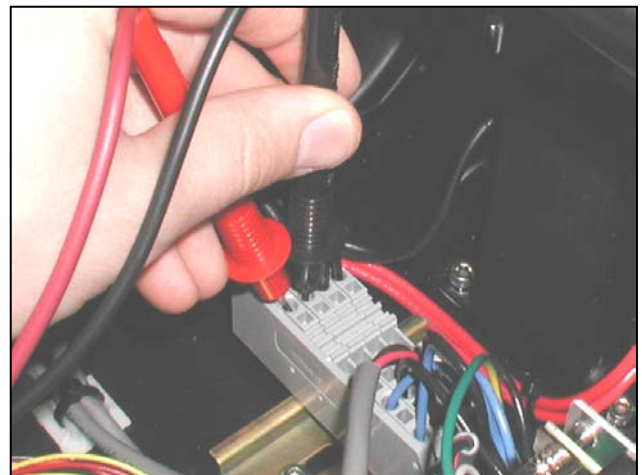

Figure 3-66 Testing two front terminal blocks
2. With a DVOM set to test for continuity, probe the two front terminal blocks and the two rear terminal blocks. Both should indicate continuity. (Figure 3-66).